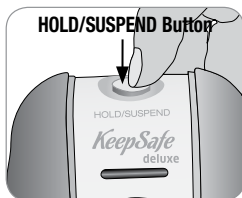
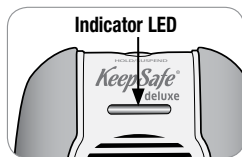

Fig. 7
Fig. 7a
1. Press HOLD/SUSPEND button on the top of alarm (Fig. 7) for 1 second. The monitoring indicator LED will begin flashing RED at 3-second intervals if the alarm is in HOLD mode (Fig. 7a).